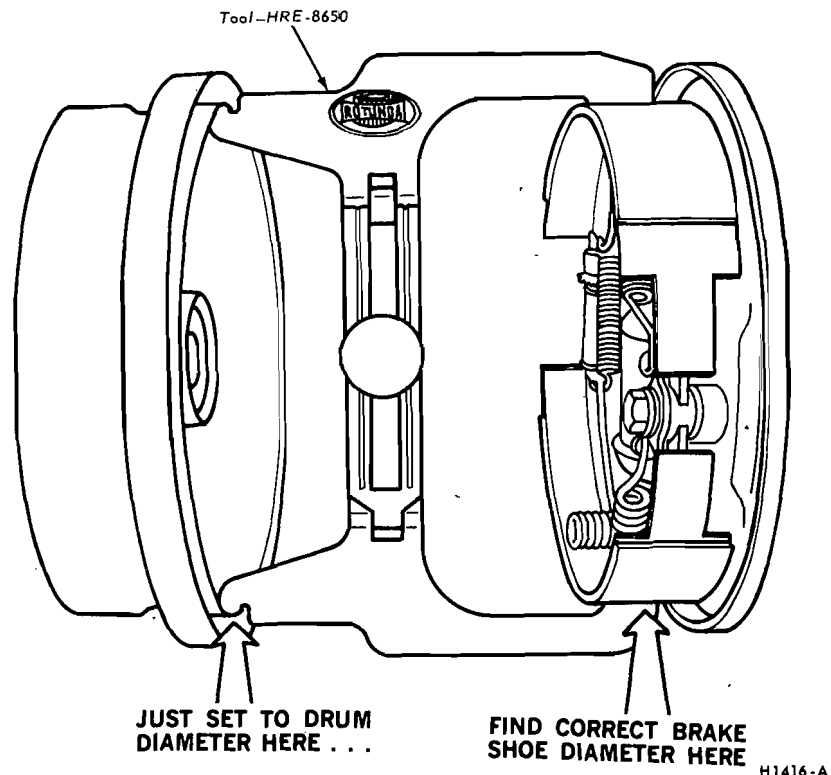

FIG. 5 Adjusting Brake Shoes Using Tool HRE-8650
1. Use Rotunda Tool HRE 8650, (Fig. 5) to determine the inside diameter of the drum braking surface.